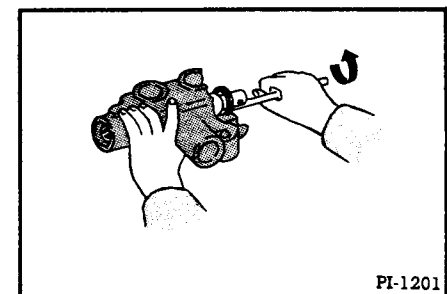

Fig. 126 Installing New Front Seal
9. Install a new front seal, being sure to keep the "U" cup side of the seal toward the valve body (Figure 126). Insert and check this seal as you did the other.